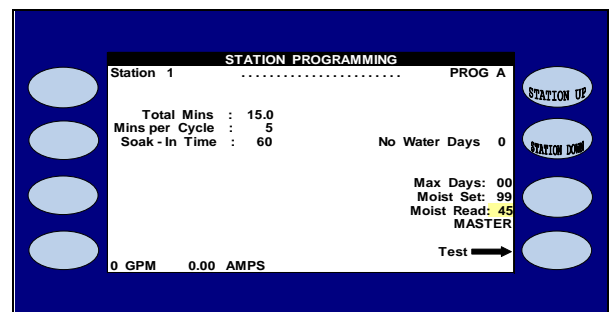

Figure 17
23.  Press the **TEST STATION # FOR MOISTURE SENSOR** Menu key to activate test. The screen will show "READING SENSOR ON # please wait (Less than 15 seconds)" for which ever station you selected. After a brief test the STATION PROGRAMMING screen will appear with the new Moisture sensor reading displayed (Figure 17).